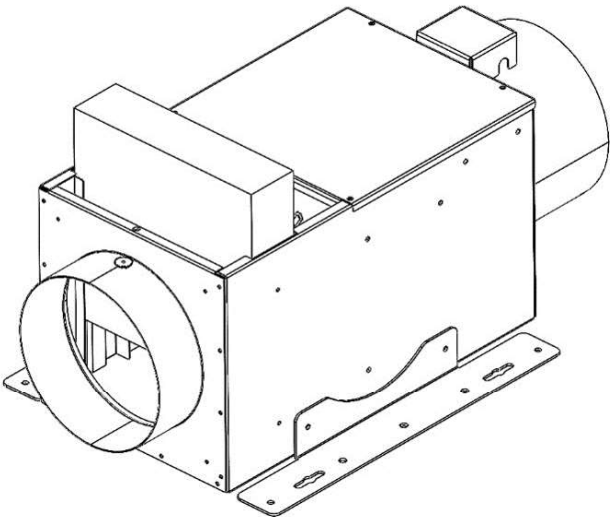

Figure 8:
- C. Remove the filter from the ventilator (FIGURE 8).